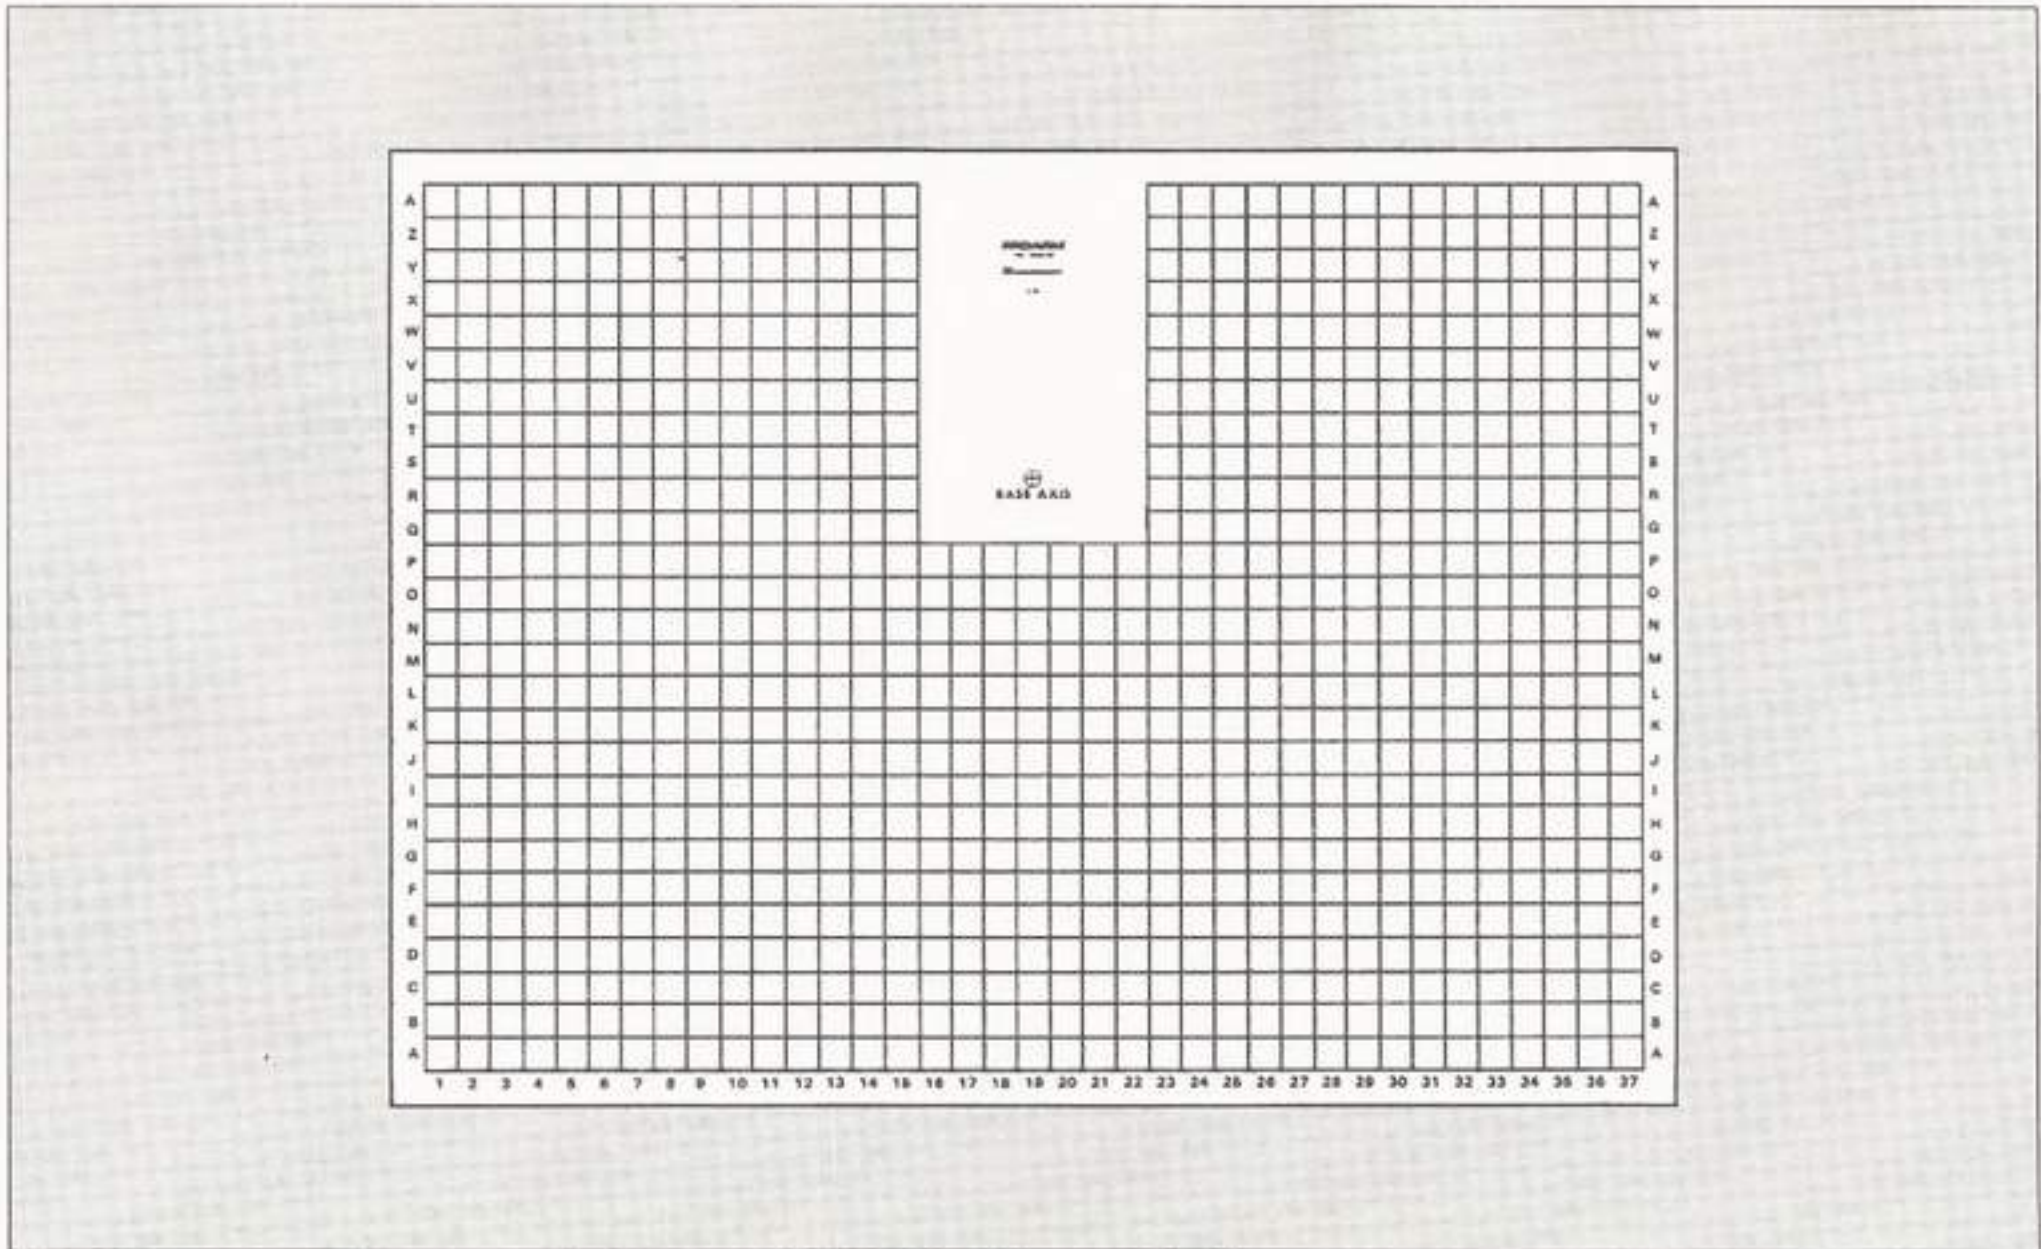

Fig. 83: First Placement Position
- ___ k. Observe and record the exact location of this first placement position, by drawing a circle on the corresponding position of the grid shown in Fig. 83.
- ___ m. During the fourth or fifth cycle, again observe the first and second placement positions of the block, and record them in Figs. 83 and 84, respectively.
- ___ o. Measure the difference, if any, between the first and last placements, as recorded in Fig. 83.
Placement difference (Fig. 83) = _____ inches